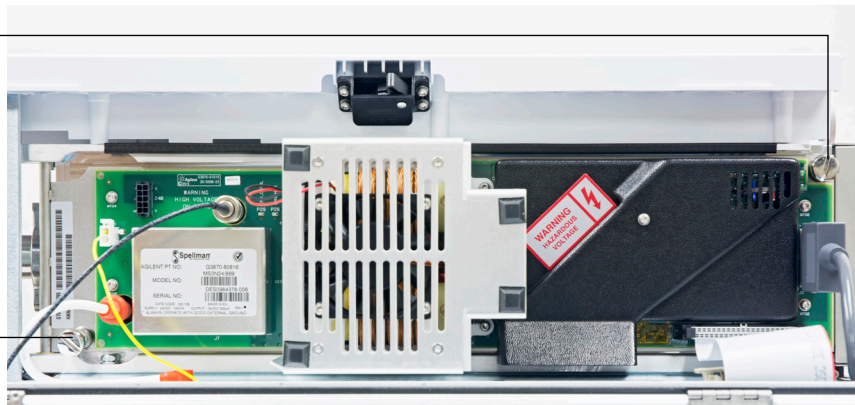

Figure 6 Side plate thumbscrews
- 8** Finger-tighten the side plate thumbscrews (See Figure 6 on page 97).